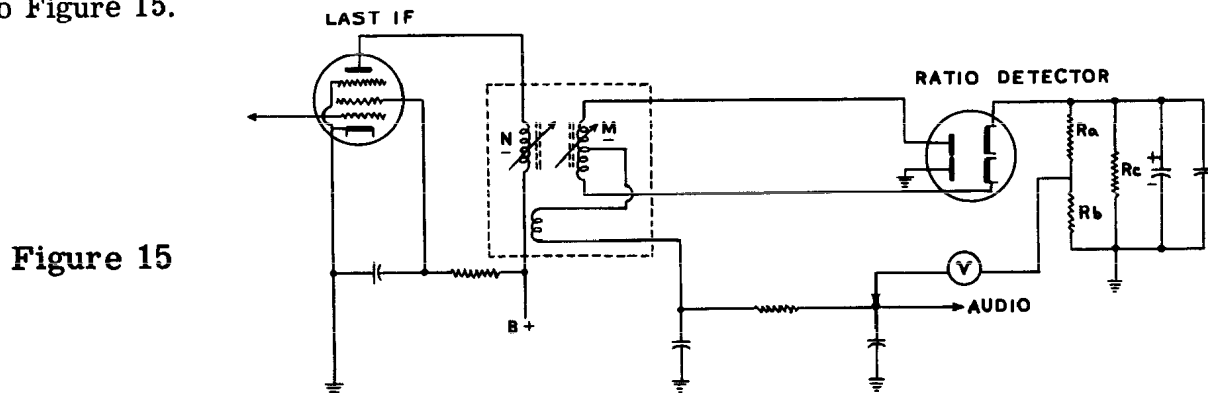

Figure 15
The following technique may be used for alignment of ratio detector FM receiver circuits. Refer to Figure 15.
- (1) Connect a VTVM or high resistance DC voltmeter across RC.
- (2) As before, both receiver and signal generator should be allowed to warm up. The receiver dial should be set to the low frequency end (88 mc) and the signal generator adjusted to give an unmodulated signal at the receiver IF. Connect the signal generator to the input of the mixer stage as before.
- (3) Adjust all IF trimmers (or slugs) for a maximum reading on the meter, using a low range and the least signal generator output possible. Repeat the adjustments at least twice to correct for any interaction. Be sure slug N is accurately adjusted.
- (4) Connect two 100,000  $\Omega$  1/2 watt resistors across RC (RA and RB) and connect the voltmeter as shown in Point V in Figure 15.
- (5) Adjust the trimmer (or slug) M for a zero output indication on the meter.
- (6) Align the RF and oscillator stages using the techniques previously described, measuring the voltage across RC as an output indication.